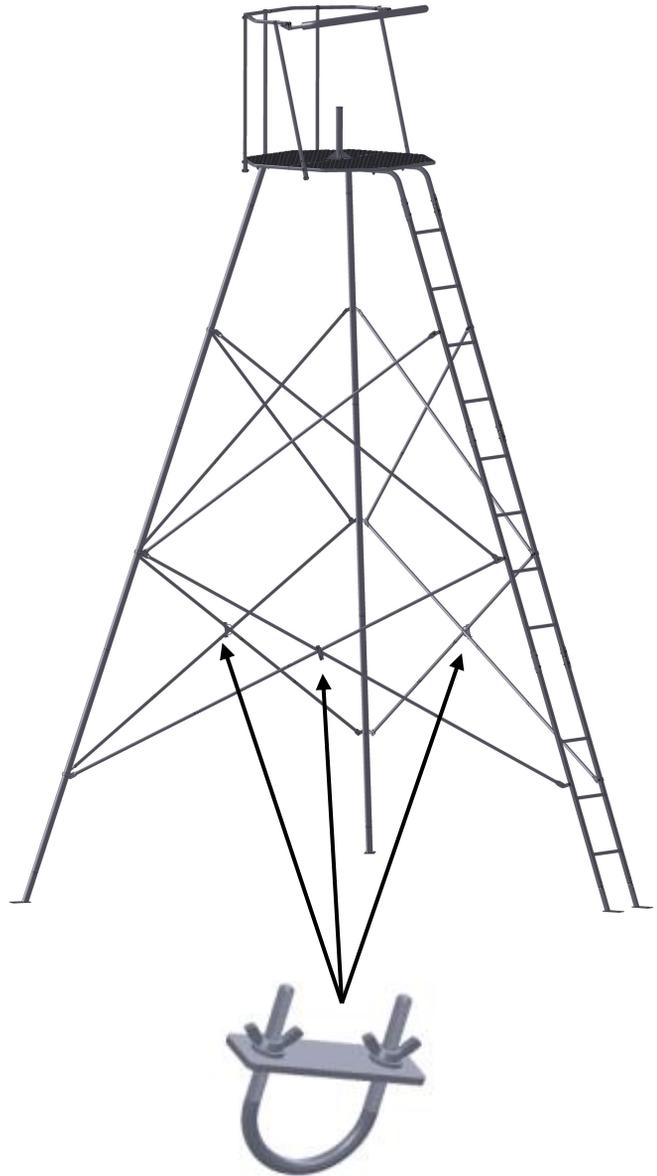

Figure 27
Install three (3) Cross Brace U Bracket (#27) at lower cross bars as shown in Figure 27.